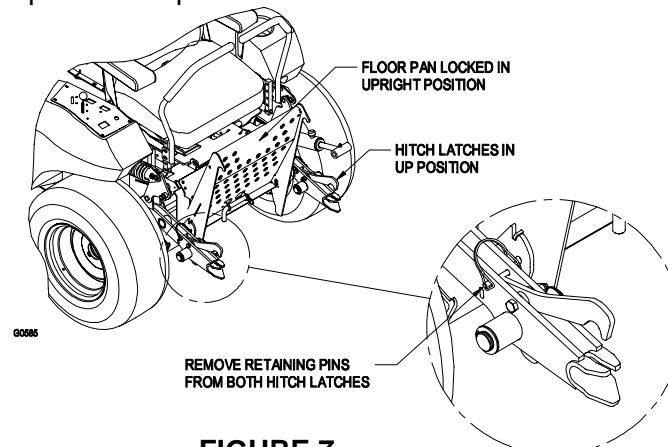

FIGURE 7
- 3.2.9 Remove the hitch latch pins from the hitch brackets. Raise the hitch latch above the hole and insert pin. The top of the hitch latch should rest under the pin. (See Figure 7)